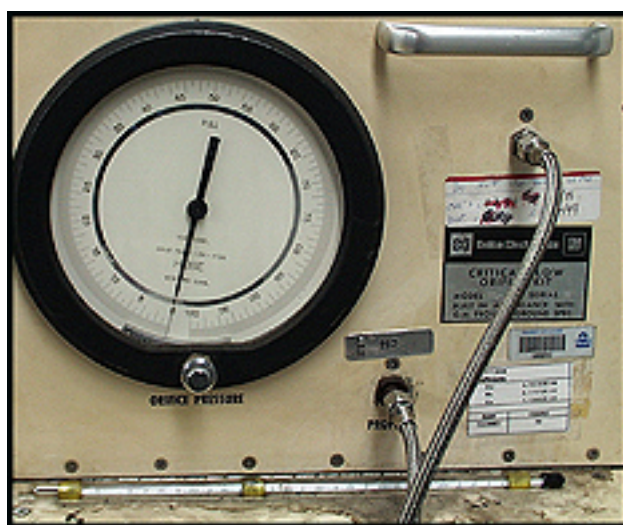

Figure 2
- 7.9 Open the propane gas cylinder valve and allow the CFO pressure gauge to stabilize at a constant pressure for a minimum of 15 minutes. The stabilized pressure should be between 75 and 80 psig. See Figure 2. If the pressure does not stabilize, readjust the propane gas cylinder valve to a stable pressure between 75 and 80 psig.